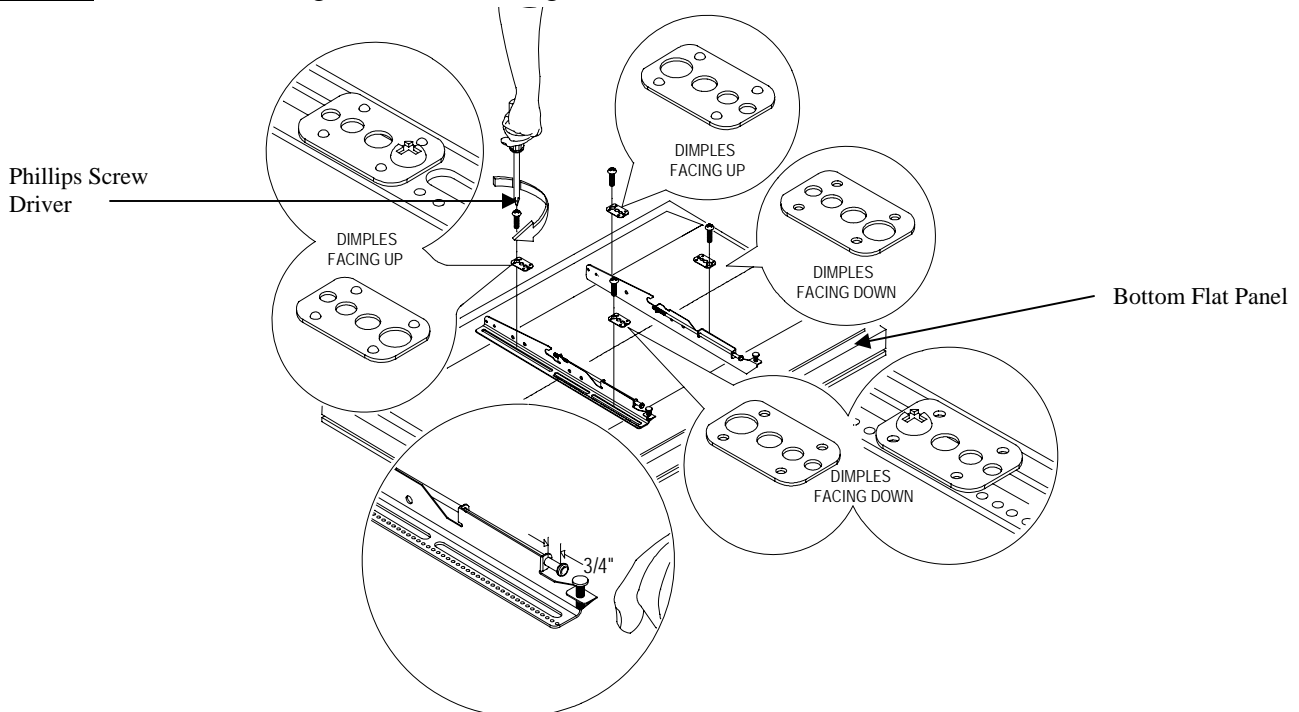

**Figure 5.** Griplate™ Orientation
**Example:** If your display uses M8 x 20 Phillips head screws. Use the M8 mounting points (Figure 5).